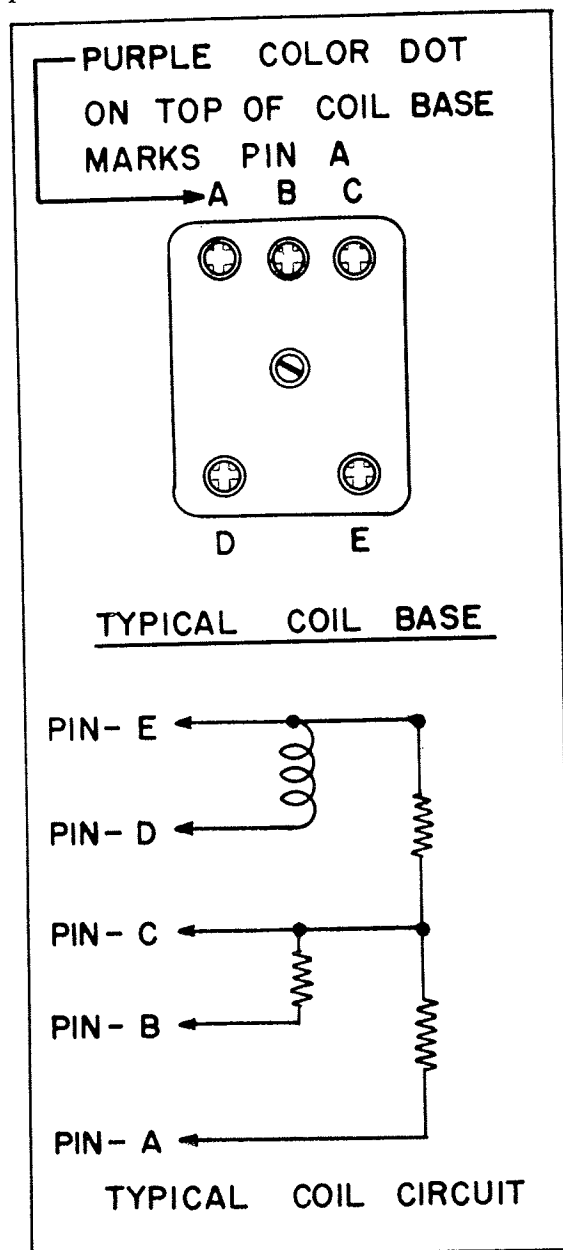
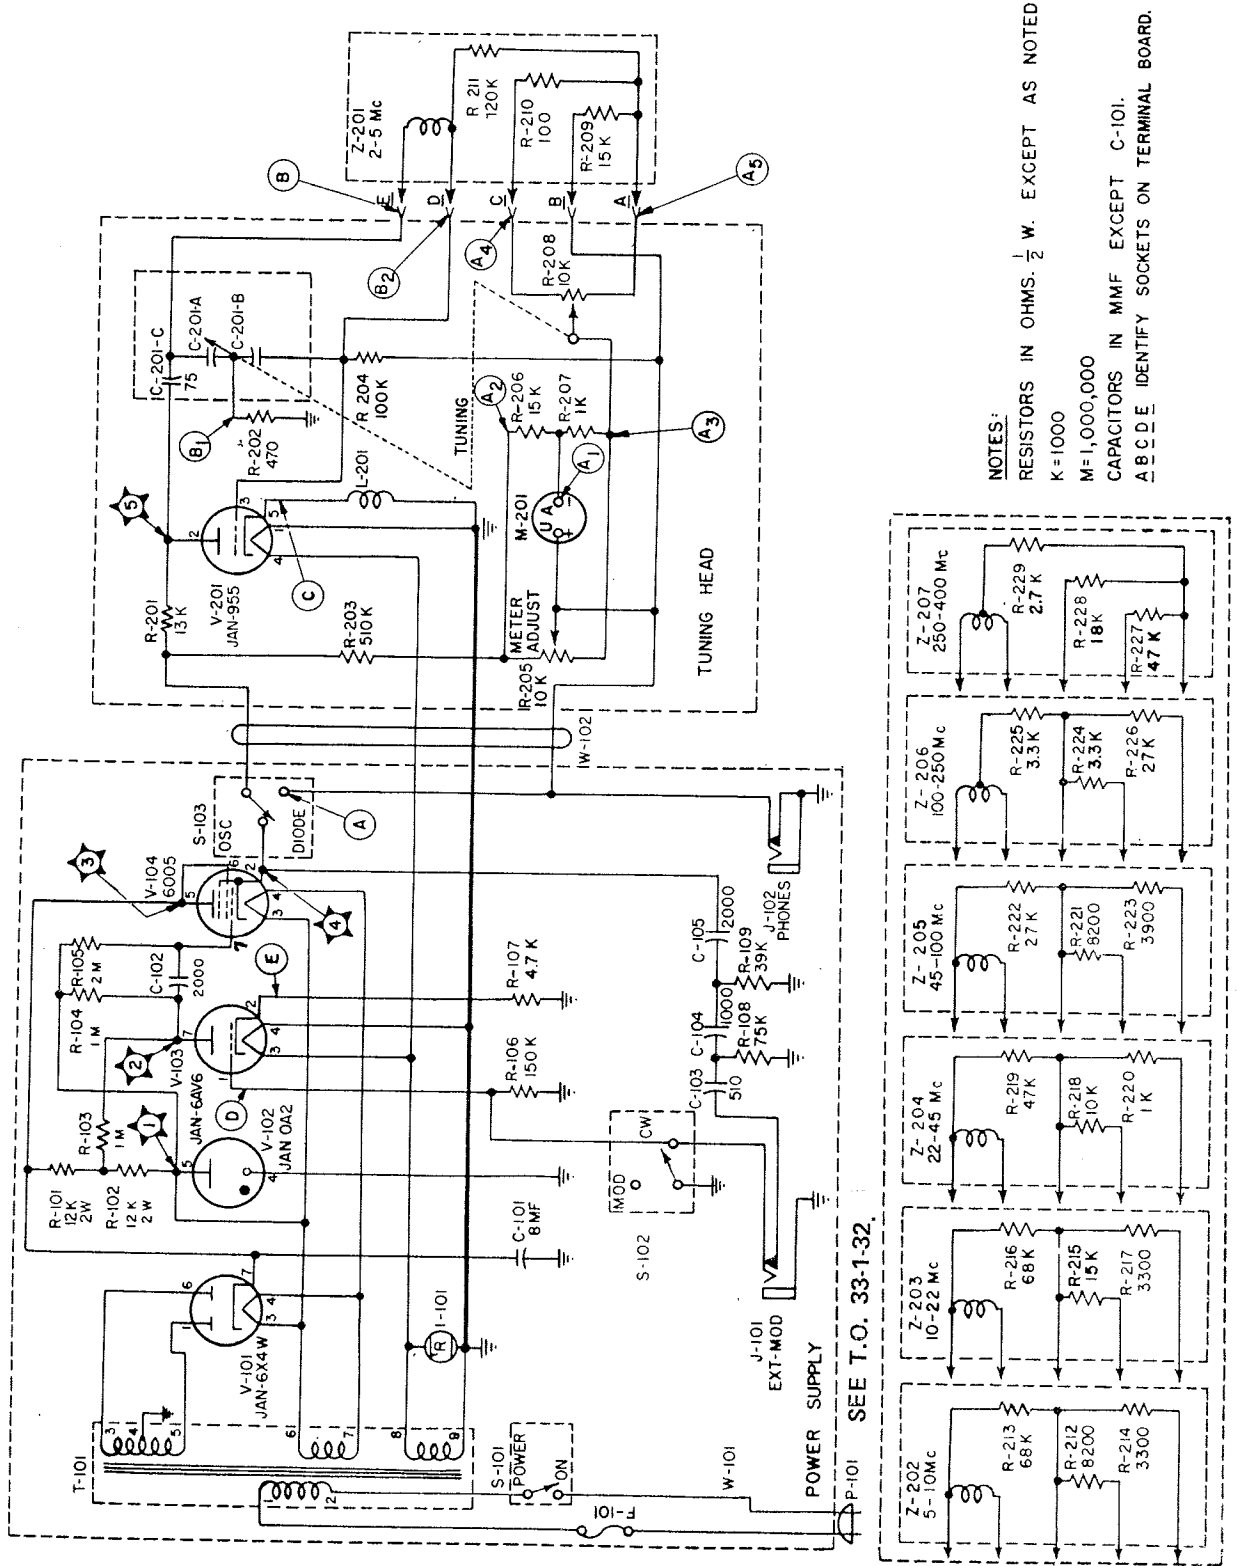
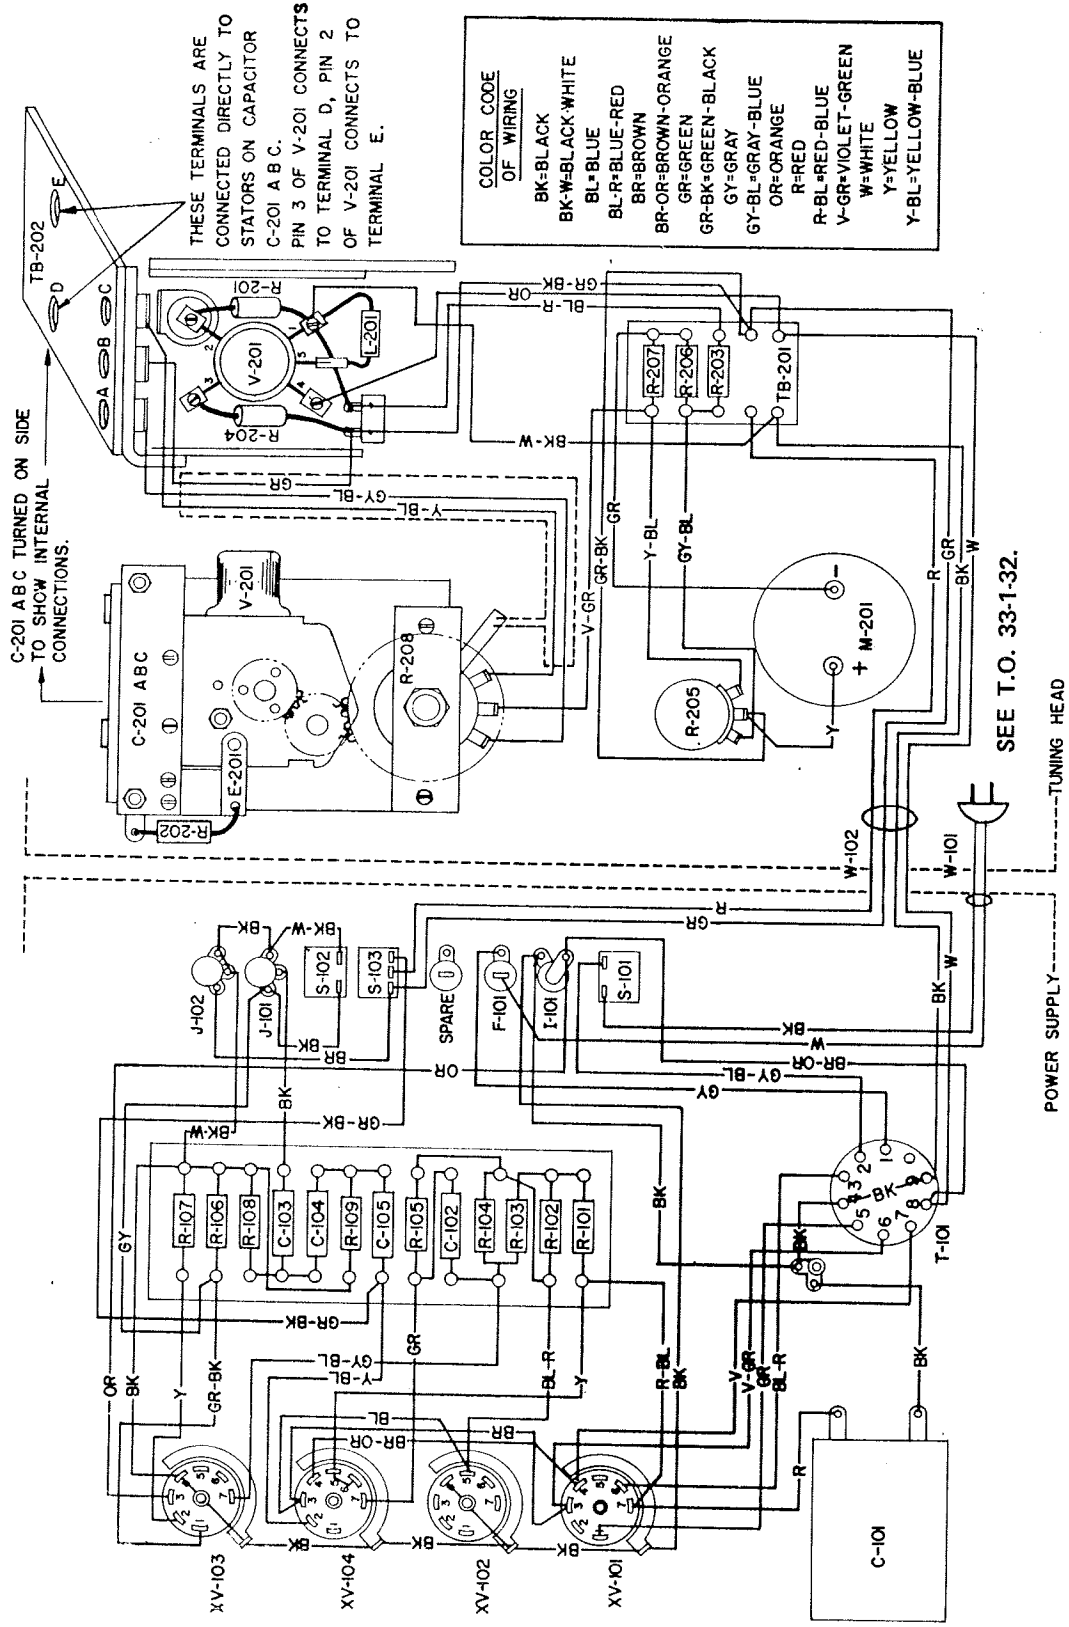

Figure 6-1. Identification of Oscillator Coil Contact Pins
Figure 7-1. Test Oscillator Set AN/PRM-10, Schematic Wiring Diagram with Test Points Identified
Figure 7-2. Test Oscillator Set AN/PRM-10, Practical Wiring Diagram
b. Put switch (S-101, figure 7-1) in "ON" position. Put switch (S-102) in "MOD." position. Put switch (S-103) in "OSC." position. This arranges the test oscillator set as a signal generator.
d. Insert oscillator coils (Z-201 through Z-207, figure 7-1) into each tuning head, a pair of the same frequency range at a time. Couple the tuning heads end to end so that the oscillator coils are about one foot apart.
e. Tune the second test oscillator set through the frequency shown by test oscillator set which is being serviced. A beat note or click will be heard in the headphones, and a flicker of the pointer of meter (M-201, figure 7-1) will occur when the incoming signal is received. Tune slowly so as not to pass the resonant point without noticing it.
6-6. When the test oscillator does not operate after new electron tubes have been put in and the meter checked, make the voltage and continuity checks outlined in Table 6-1. Test points mentioned in Table 6-1 appear on figure 7-1. Figure 7-2 is the practical wiring diagram which guides the finding of test point locations in the equipment.
6-8. OSCILLATOR COIL CHECK. Refer to the oscillator coils (Z-201 through Z-207, figure 7-1) when any oscillator coil is suspected of not working. Figure 6-1 identifies the contact pins in the bases of the coils. Check for the continuity and resistance values shown by figure 7-1.
7-2. This section contains four figures, the schematic wiring diagram (figure 7-1), and the practical wiring diagram (figure 7-2), the electron tube terminal voltage diagram (figure 7-3), and the electron tube terminal resistance diagram (figure 7-4).
7-3. Both the schematic wiring diagram (figure 7-1), and the practical wiring diagram (figure 7-2), contain the same reference symbol numbers. Power supply parts are covered within the "100" block of reference symbol numbers. Tuning head parts are covered by the "200" block of reference symbol numbers. Identical reference
7-4. The schematic wiring diagram (figure 7-1), shows the entire circuit of the test oscillator set and shows the location of all test point identification symbols. The practical wiring diagram (figure 7-2), gives the location of each part and shows the color coding of each wire.